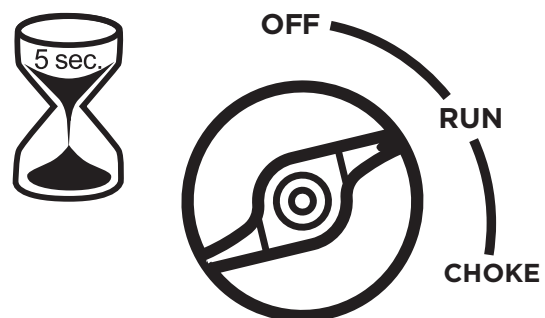

Figure 9: Turn Engine/Fuel Switch to RUN
4. As the engine starts and stabilizes, turn the choke switch back in to the **RUN** position (see *Figure 9*).